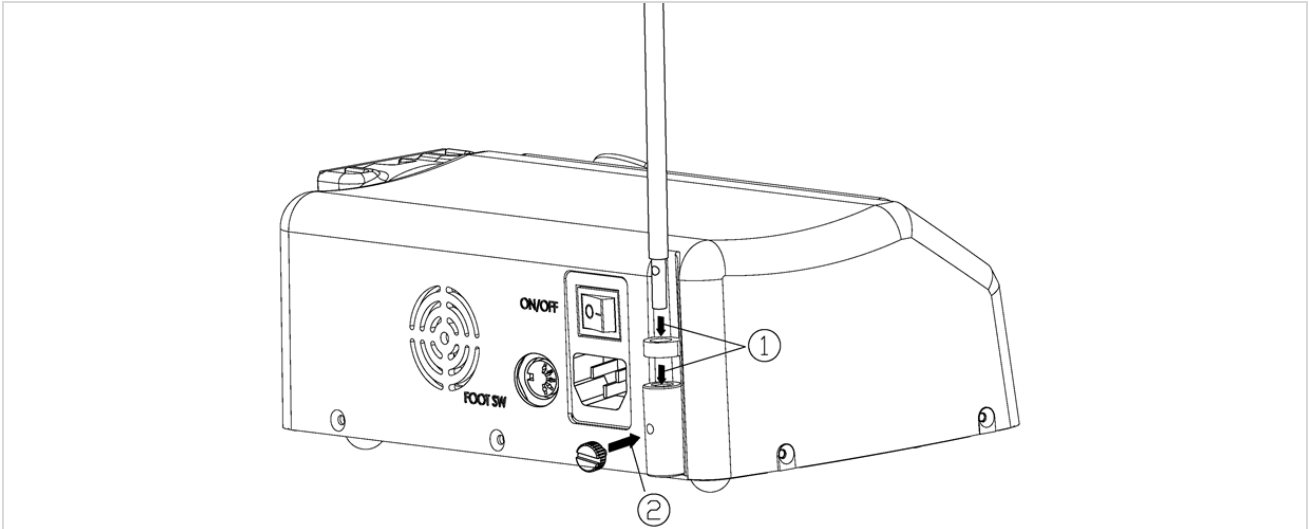

Fig.2-4
2. Insert the irrigation rod into the slot provided. (Fig.2-4)